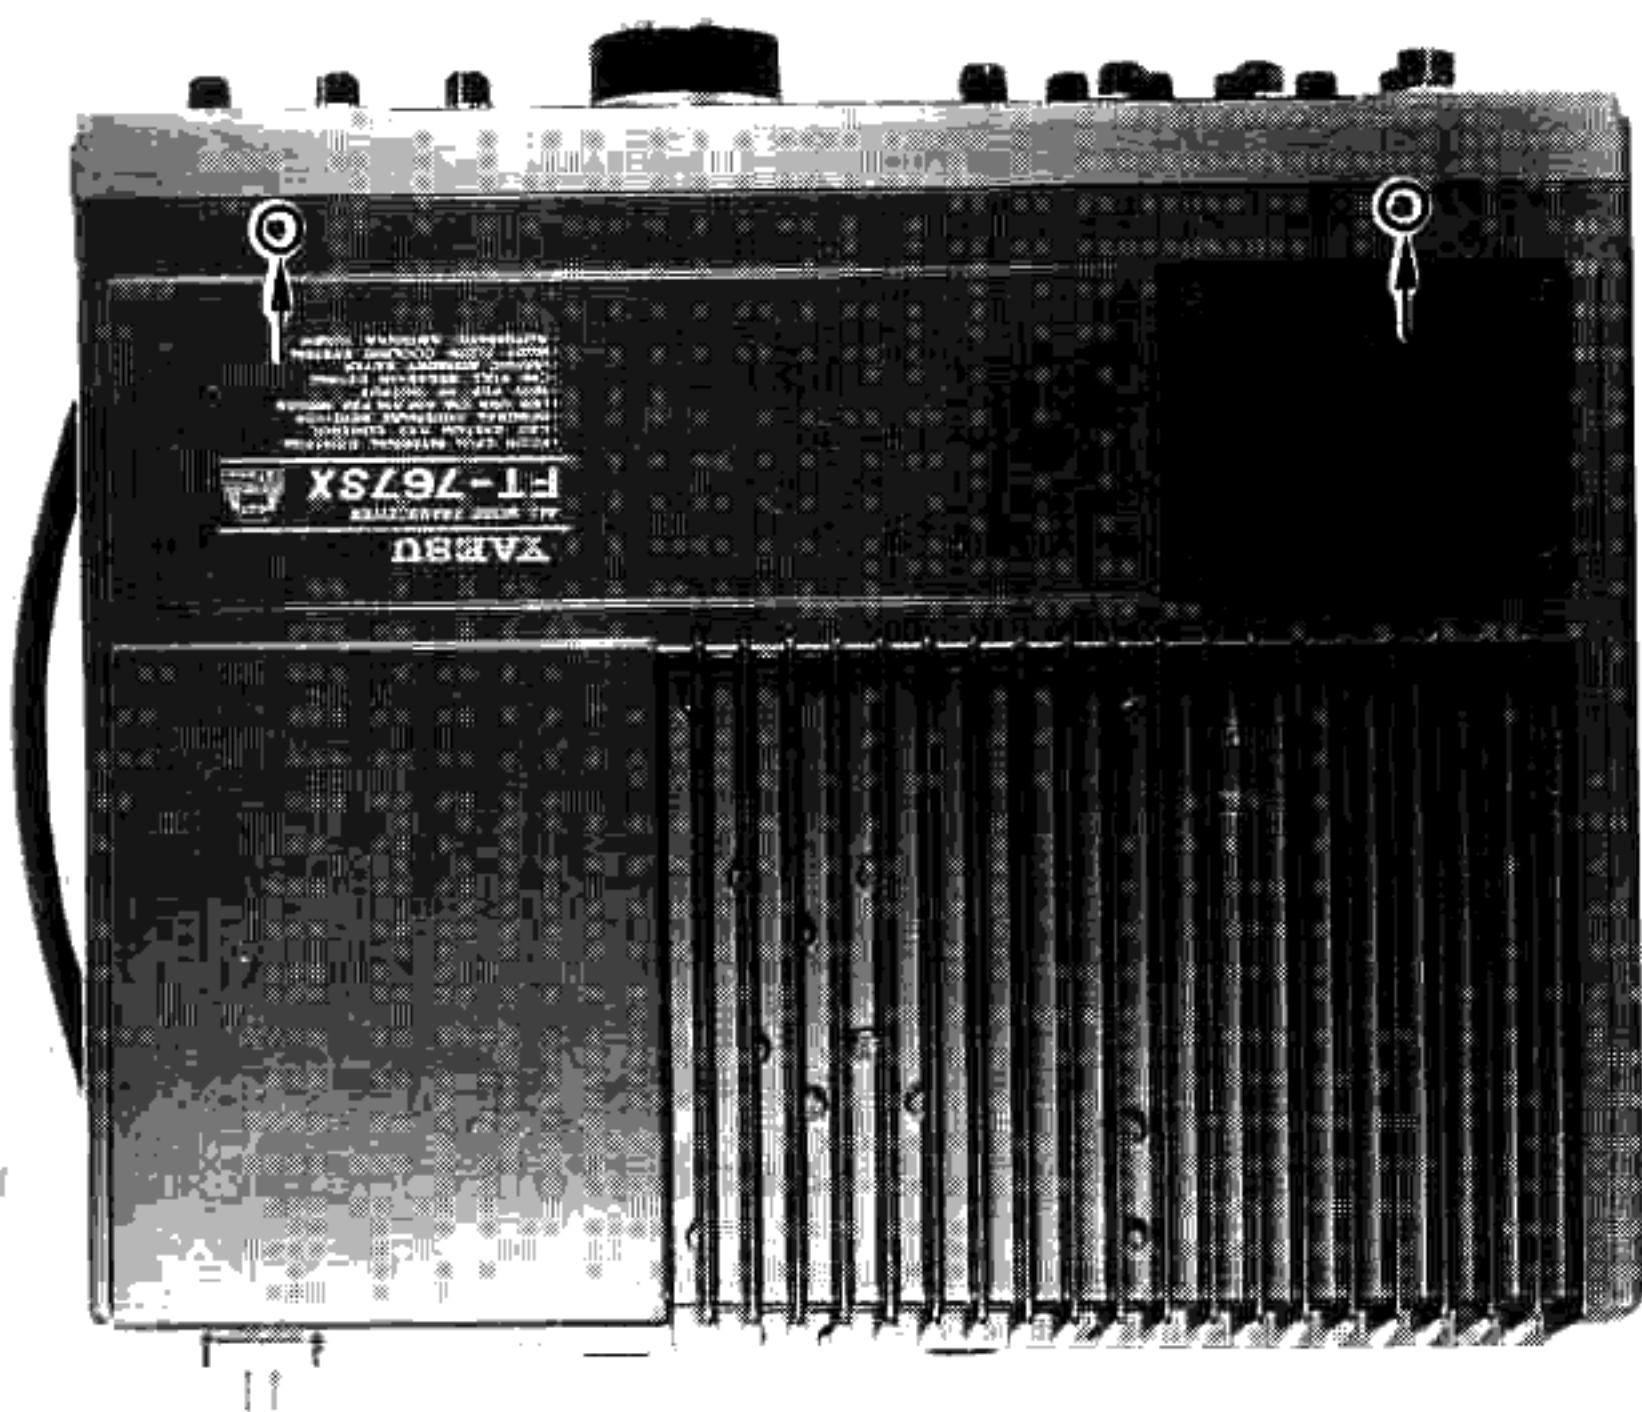

Figure 2
- (3) Remove the two screws at the front of the top cover (heatsink, Fig. 2).